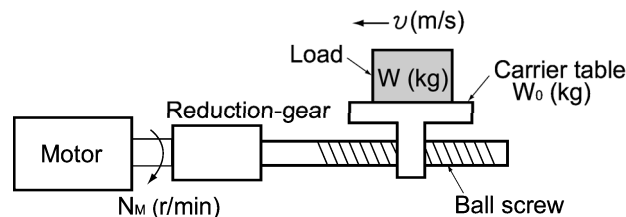

Figure 10.3.1-1 Moving a Load Horizontally
A simplified mechanical configuration is assumed as shown in Figure 10.3.1-2. If the mass of the cage is W_0 (kg), the load is W (kg), and the balance weight is W_B (kg), then the forces F (N) required for lifting the load up and down are expressed as follows: